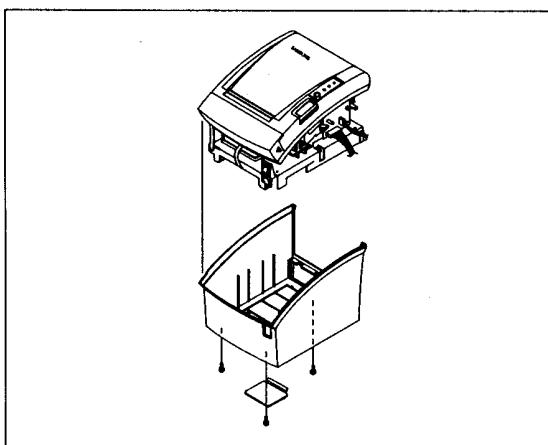

Figure 3-7 Wall Mount #3
3. Remove the three screws from the bottom of the Case-Lower. Separate the Case-Lower from the Main Body (Figure 3-7)